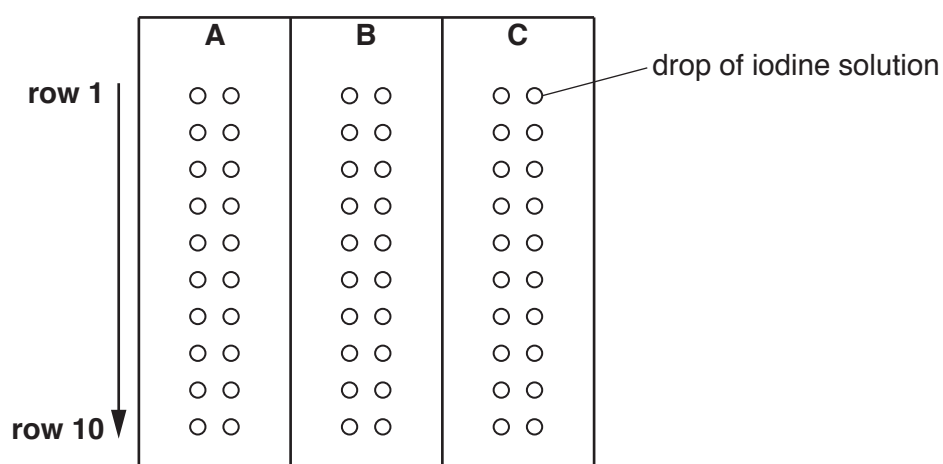

Fig. 1.1
- Step 6 A white tile was divided into three sections and labelled **A**, **B** and **C** as shown in Fig. 1.1.
- Step 7 Iodine solution was dropped onto the tile to form two rows of 10 drops approximately the same distance apart, in each of the sections **A**, **B** and **C** as shown in Fig. 1.1.